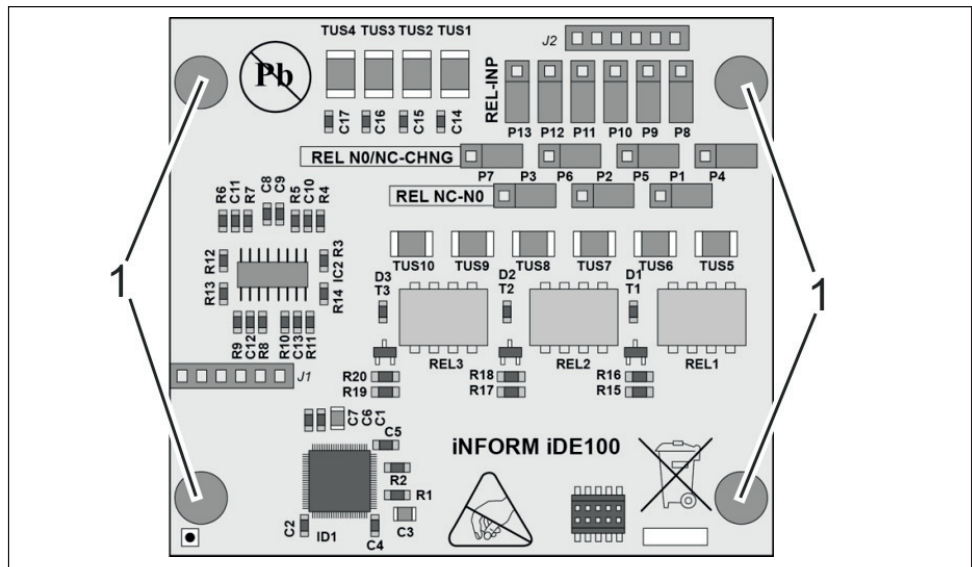

Fig. 22: I/O board spacer
2. Attach the spacer to the controller (Fig. 22/1) on the add-on module (4x supplied).